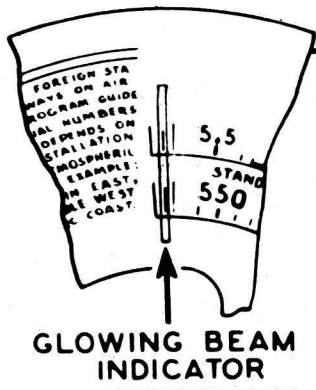

Fig. 6—Dial Calibration Model 38-23
2. Loosen the clamp of dial, then turn the dial—being careful that position of tuning condenser is not disturbed—until the glowing indicator is centered on the middle index line at the low frequency end of Range One scale. See Fig. 6. Tighten the dial clamp in this position.